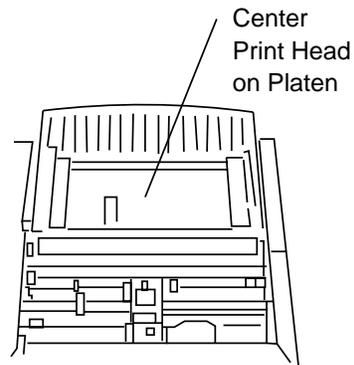

Figure 6-4. Print Head Position
- 9.3. Slide the print head to the center of the carriage as shown in Figure 6-4.